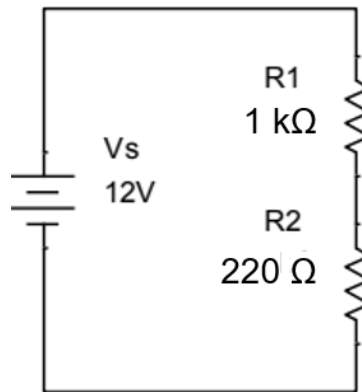
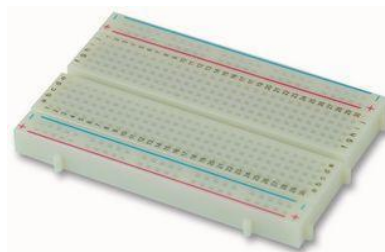
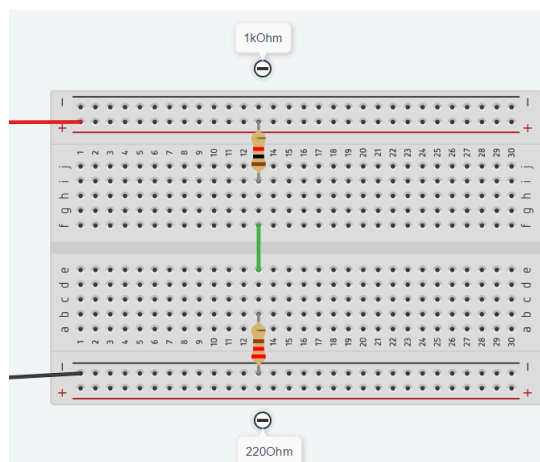

Figure 20: Test circuit
Figure 21: Breadboard
Figure 25: An example of completed circuit construction on the breadboard.
To build the test circuit shown in Figure 20 a breadboard (shown in Figure 21) will be used.
- Construct the circuit shown in Figure 20 on the breadboard. The finished circuit should appear similar to Figure 25.